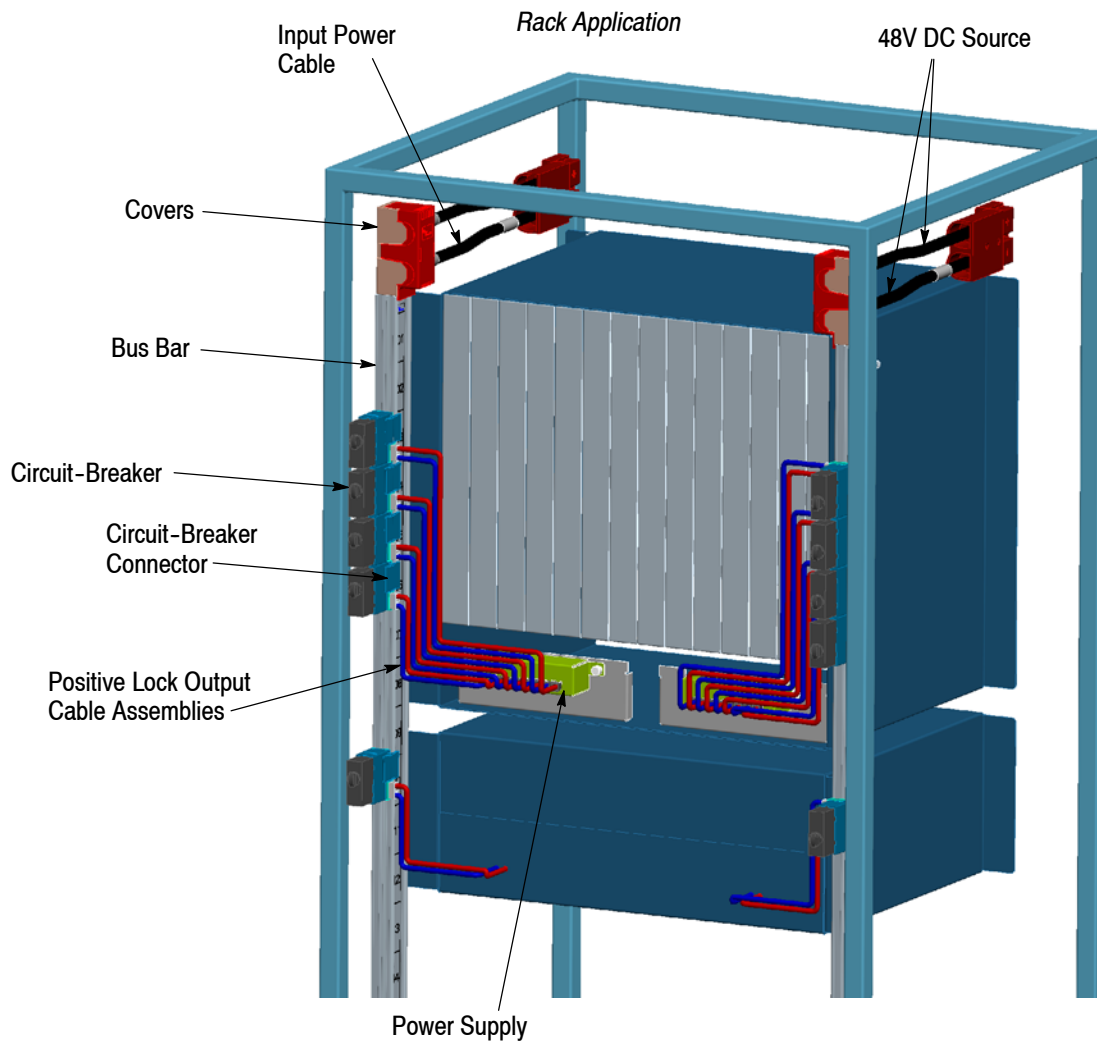

Figure 1
The Bus Bar Connection System consists of connection components as shown in Figure 1. Main component is the bus bar: an extruded profile holding two solid copper conductor bars. Power is supplied to the conductor bars with 50 mm2 or 95 mm2 wires and RAPID LOCK\* Right-Angle Sockets or Ring Tongue terminals. A Circuit Breaker Connector (CBC) can be mated onto the bus bar on any location along the length of the bus bar. The CBC accepts industry standard flange mount circuit breakers with tab terminals. A Positive Lock output cable assembly connects the CBC to the power supply equipment.
When corresponding with Tyco Electronics Personnel, use the terminology provided on this specification to help facilitate your inquiry for information. Basic terms and features of components are provided in Figure 1.
- Changed artwork in Figures 1 and 7